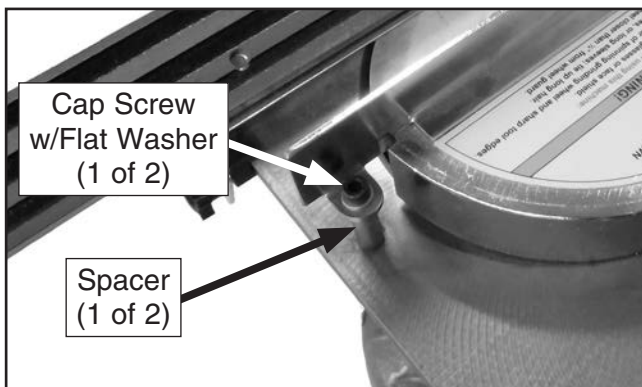

Figure 32. Location of wheel guard fasteners.
2. Remove (2) M5-.8 x 35 cap screws, (2) 5mm flat washers, and (2) spacers shown in **Figure 32**, then remove the wheel guard.